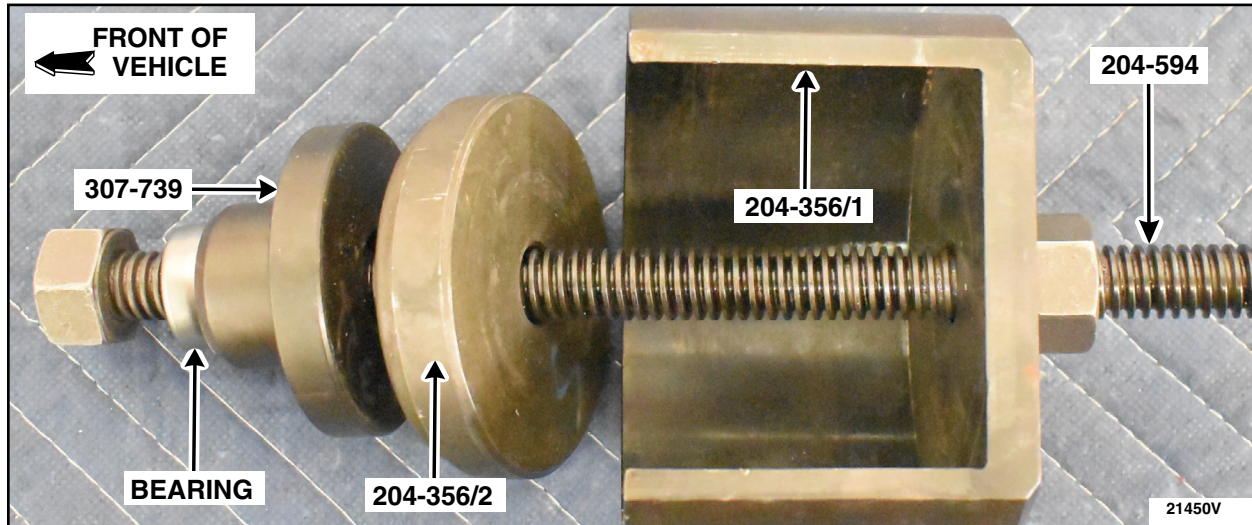

FIGURE 5
11. Using the Special Service Tool: 204-594 Forcing screw, 204-356/1 Remover/Installer, Radius Arm Axle Bushing, 204-356/2 Remover/Installer, Radius Arm Axle Bushing, 307-739 Installer, R3 Bearing, and 205-153 Adapter for 303-224 (Handle) and press out the rear axle assembly subframe bushing. See Figure 5.